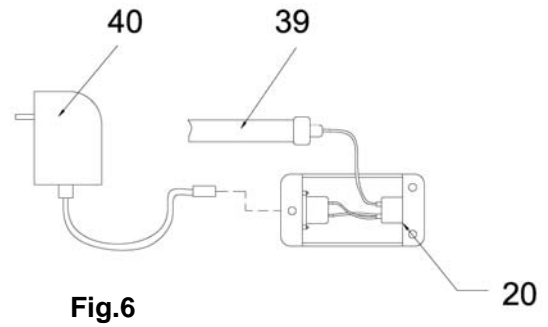

Fig.6
Step 6 – Switch Assembly see Figure 6